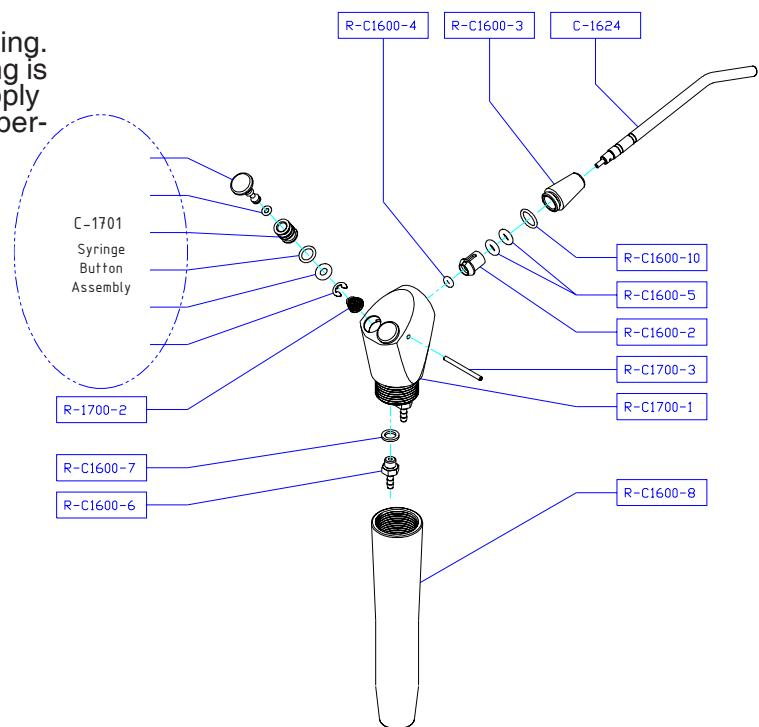

Figure 7. Syringe.
2. Replace the tip by inserting a new one into the tip socket, and firmly pushing into place until you feel it softly "pop" into place. To ensure it has been fully inserted, the uppermost small groove on the tip shank must be just visible over the end of the socket. *See Figure 7.*
Solution: Replace the button assembly # C-1701 (See figure 7). Turn water and air supply off. Depress air and water buttons on Syringe to relieve residual pressure. Hold both buttons down and use a paperclip to push cross pin out of syringe head. Gently remove button from head, being careful not to lose conical spring beneath. To install new button, ensure that conical spring is seated with the small end pointing up. Gently push into place and hold both buttons down firmly while re-inserting cross-pin.
Solution: Ensure tip is properly and fully inserted. If so, replace O-ring #R-C16004 (See Figure 7). Twist conical tip socket assembly (R-C21600-3) off of syringe head to access this O-ring. When re-installing tip socket assembly, hand tighten only. If tip cannot be fully inserted, then socket is too tight.